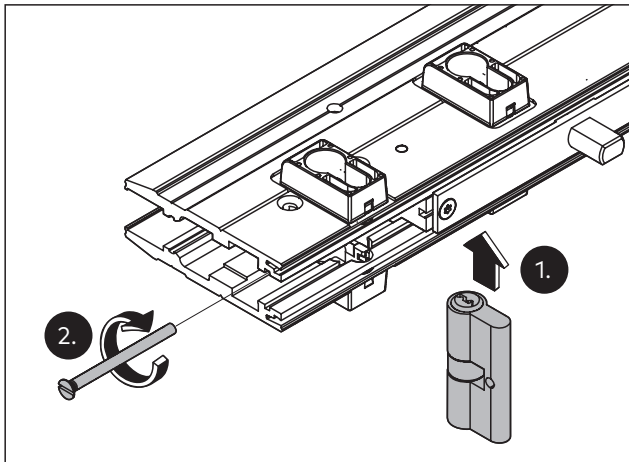

Fig. 12 Inserting the locking cylinder and screwing into place
2. Insert the locking cylinder. In doing so, ensure that the cylinder driver fits in the opening (Fig. 12/1).
3. Screw the locking cylinder with the screw from the front end (Fig. 12/2).